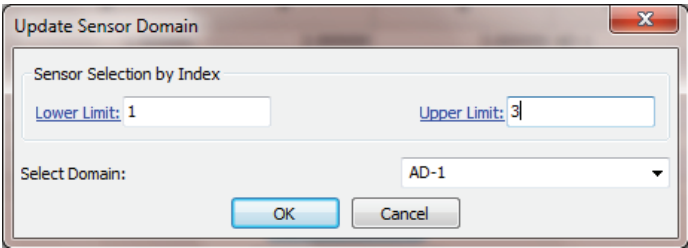

Figure 7.33 Sensor Update Domain window.
7.3.3.2. Update Domains This button appears only for sensors in *Multidomain* models. The domains associated with sensors can be changed separately by selecting a domain name from the drop down menu under the column **Domain**. You can also change the domains associated with a group of sensors (filtered through their indices) through **Update Domains** button. Update Sensors Domain window opens up with the following options when you click on the button. Figure 7.33.